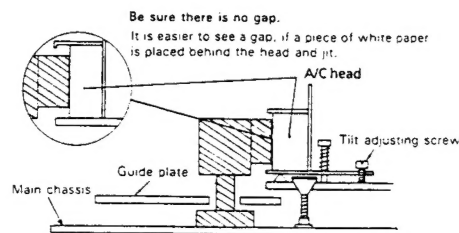

Figure 1-19
2. Loosen the tilt adjusting screw ② by using a phillips screwdriver.
3. Remove the azimuth adjusting screw ⑤ (3P + 8S) with a phillips screwdriver.
4. Remove the A/C head screw ④ with a phillips screwdriver, paying attention to the spring ⑦ between the A/C head screw ④ and A/C head assembly ①.
6. The A/C head assembly ① is attached so that the A/C head arm and A/C head plate stand are roughly parallel to one another.
7. Set the A/C head tilt according to Fig. 1-19.
9. Set the mechanism to the unloading mode. Place the A/C head tilt adjusting jig on the main chassis as shown in Figs. 1-19 and 1-20. Slowly turn the set screw with a hex wrench (1.5 mm JIGHW0015) until there is no gap between the jig and the A/C head.
2. Set the tilt angle of the audio/control head as shown in Fig. 1-19.